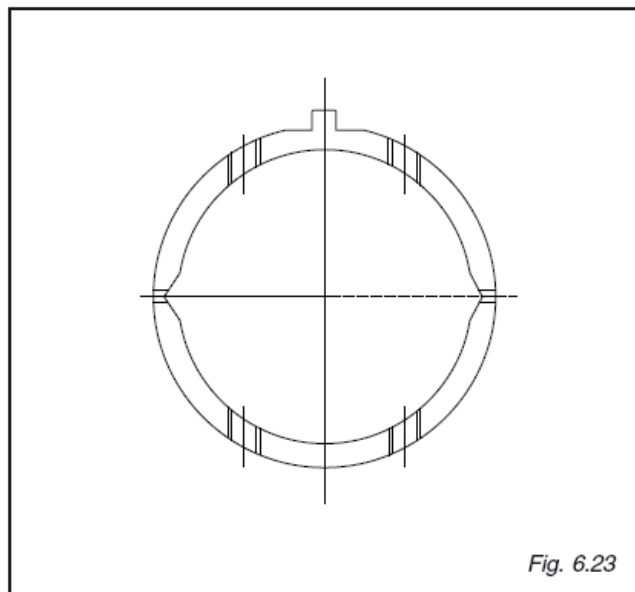

Fig. 6.23
6.14 CLEARANCE RINGS (FIG. 6.23)